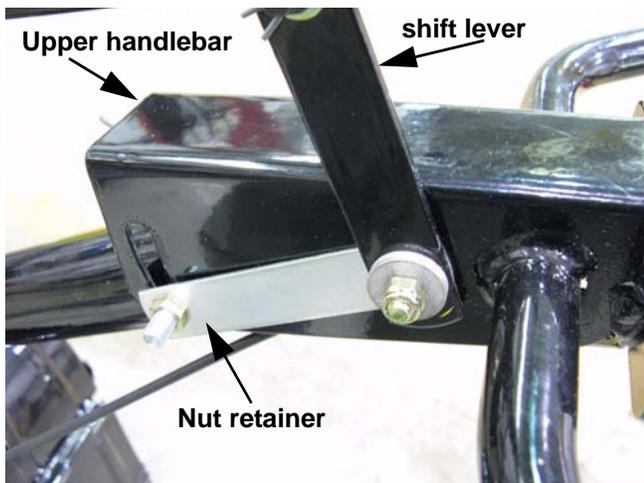

Figure 2.18
1. All 450-series tillers use a simple control lever to move the shift control rod. The selector is locked into position by the internal detentes in the chain case. See Figure 2.18.